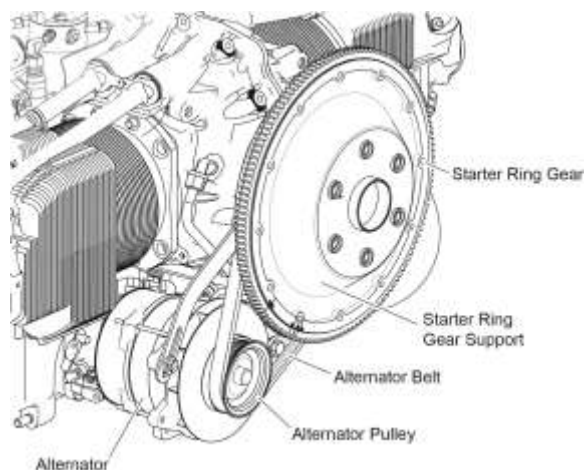

Figure 1
- A. Examine the alternator belt (Figure 1) for any cracks, damage, or wear.